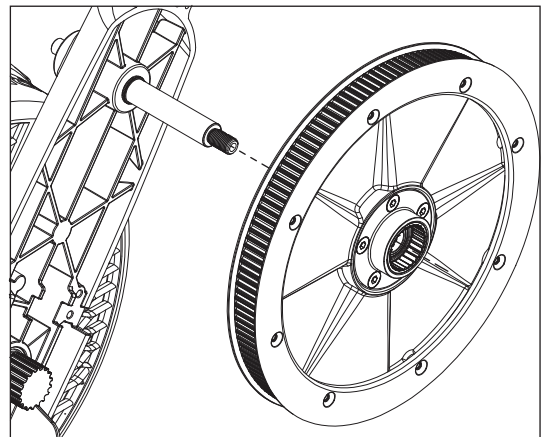

FIGURE 7.1
3. Pull the pulley assembly from the pulley shaft. (Figure 7.1)
2. Install the pulley assembly back onto the shaft. (Figure 7.1)